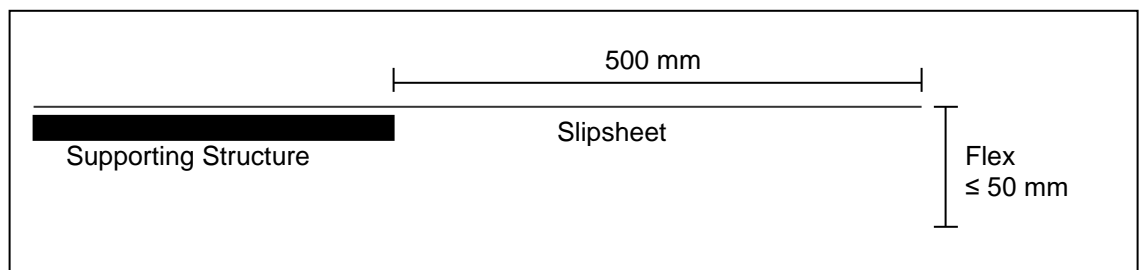

Figure 1
- The 40" x 48" slipsheet/tie-sheet must be sufficiently stiff so that when overhanging off of a supporting structure from a distance measuring 500 mm, the slipsheet/tie-sheet does not sag or deflect more than 50 mm in distance. See figure 1 below.